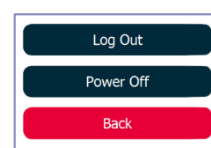

Fig.12
- The screen shown in the Figure 12 will be displayed.